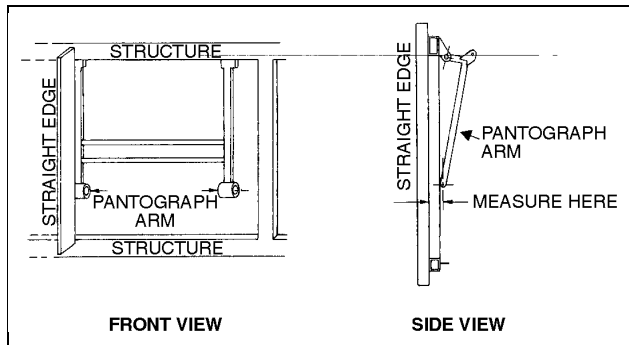

FIGURE 20: BAGGAGE COMPARTMENT DOOR 18062
2. Measure distance between a pantograph arm end and a straight edge rested on structure. Repeat procedure for the other arm. The distance on each side should be equal. If not, bend arm end until desired measure is obtained. Refer to figure 20.